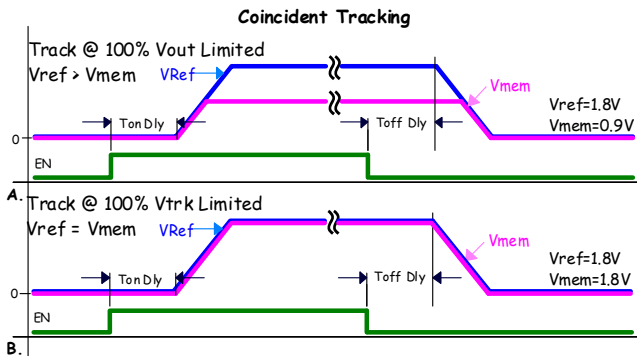

FIGURE 20. COINCIDENT TRACKING
Figure 23 is an example of a basic pin-strap tracking configuration. The VTRK pin is an analog input that, when tracking mode is enabled, the voltage applied to the VTRK pin performs as a reference for the device's output voltage. The ZL2106 offers two modes of tracking: coincident and ratiometric. Figures 20 and 21 illustrate the output voltage waveform for the two tracking modes.
- a. Track at 100% VOUT limited. Member rail tracks the reference rail and stops when the member reaches its target voltage, Figure 20 (A).
- b. Track at 100% VTRK limited. Member rail tracks the reference at the instantaneous voltage value applied to the VTRK pin, Figure 20 (B).
The configuration settings for Figures 20 and 21 are shown below in Figure 22. In each case the reference and member rise times are set to the same value.
| Tracking Configuration Figure 20 (A) |                  |                  |                   |                   |                    |                   |
| Tracking Configuration Figure 20 (B) |                  |                  |                   |                   |                    |                   |